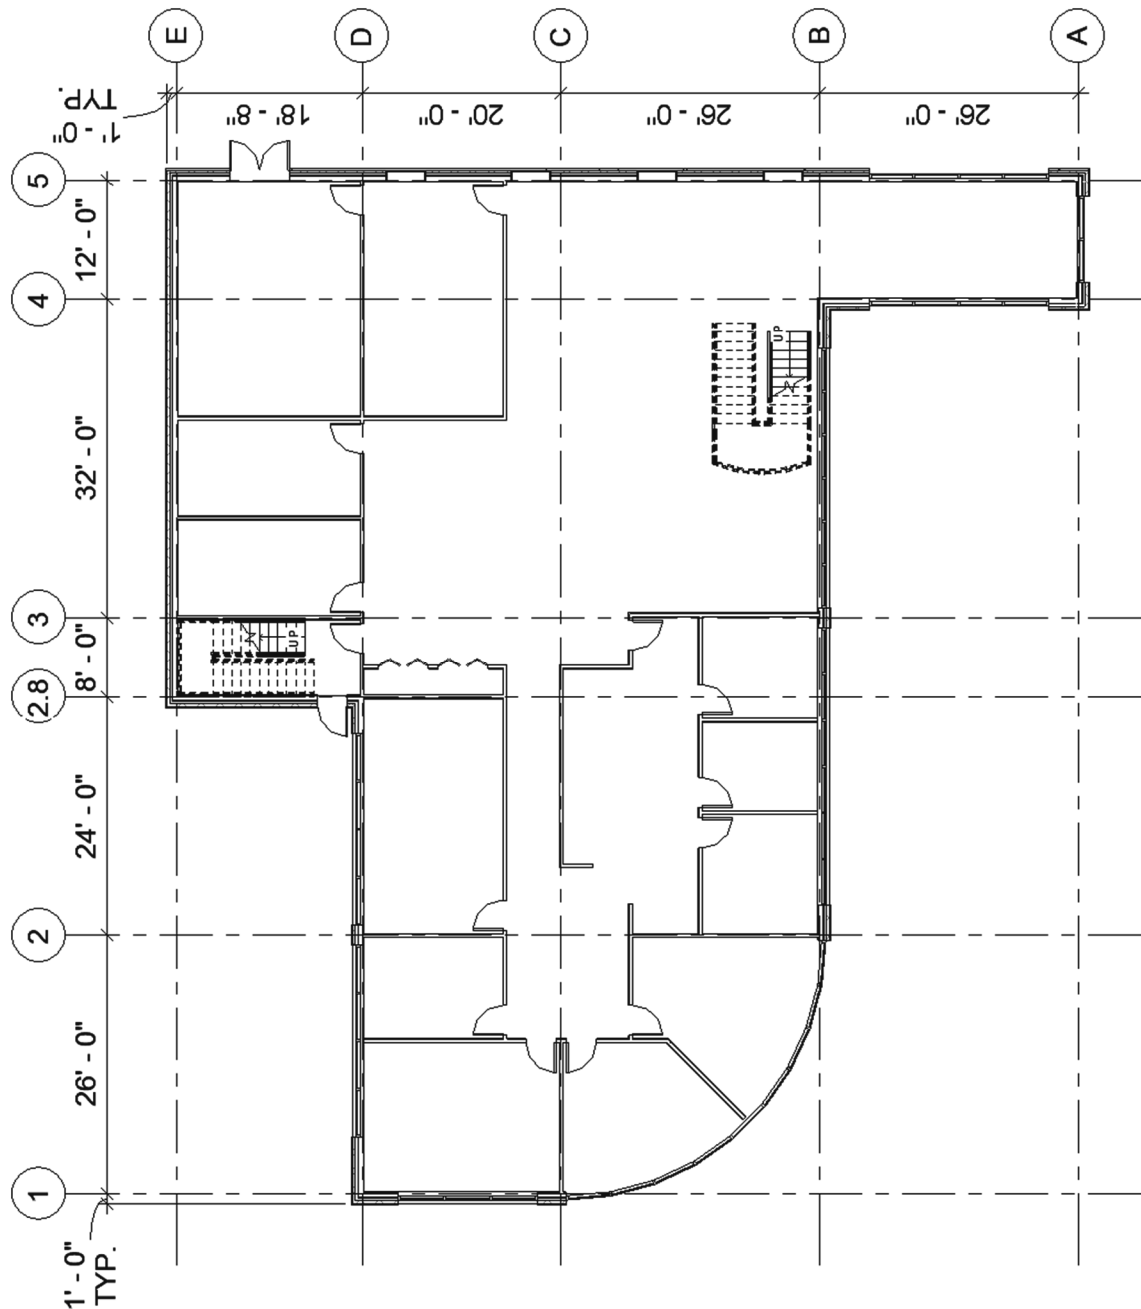

FIGURE 8-3.3
4. Layout the grid as shown in Figure 8-3.3.
- b. Use this as an opportunity to double-check the overall dimensions of your building. Many of the grids can be laid out based on the 1'-0" distance from the exterior face of the exterior wall rule we have established. Additionally, Figure 8-3.3 shows dimensions between each grid; this can be used to locate the remaining grids and verify dimensions.
FYI: In the image below (Figure 8-3.3), you can see two dimensions with the word "TYP." below them. First off, this is an abbreviation which should only be used if it has been defined in an abbreviation list somewhere in the set of documents. This abbreviation means "TYPICAL", and when used like this, lets the contractor know that any grid line near an exterior wall should be this same dimension (1'-0" in this case).